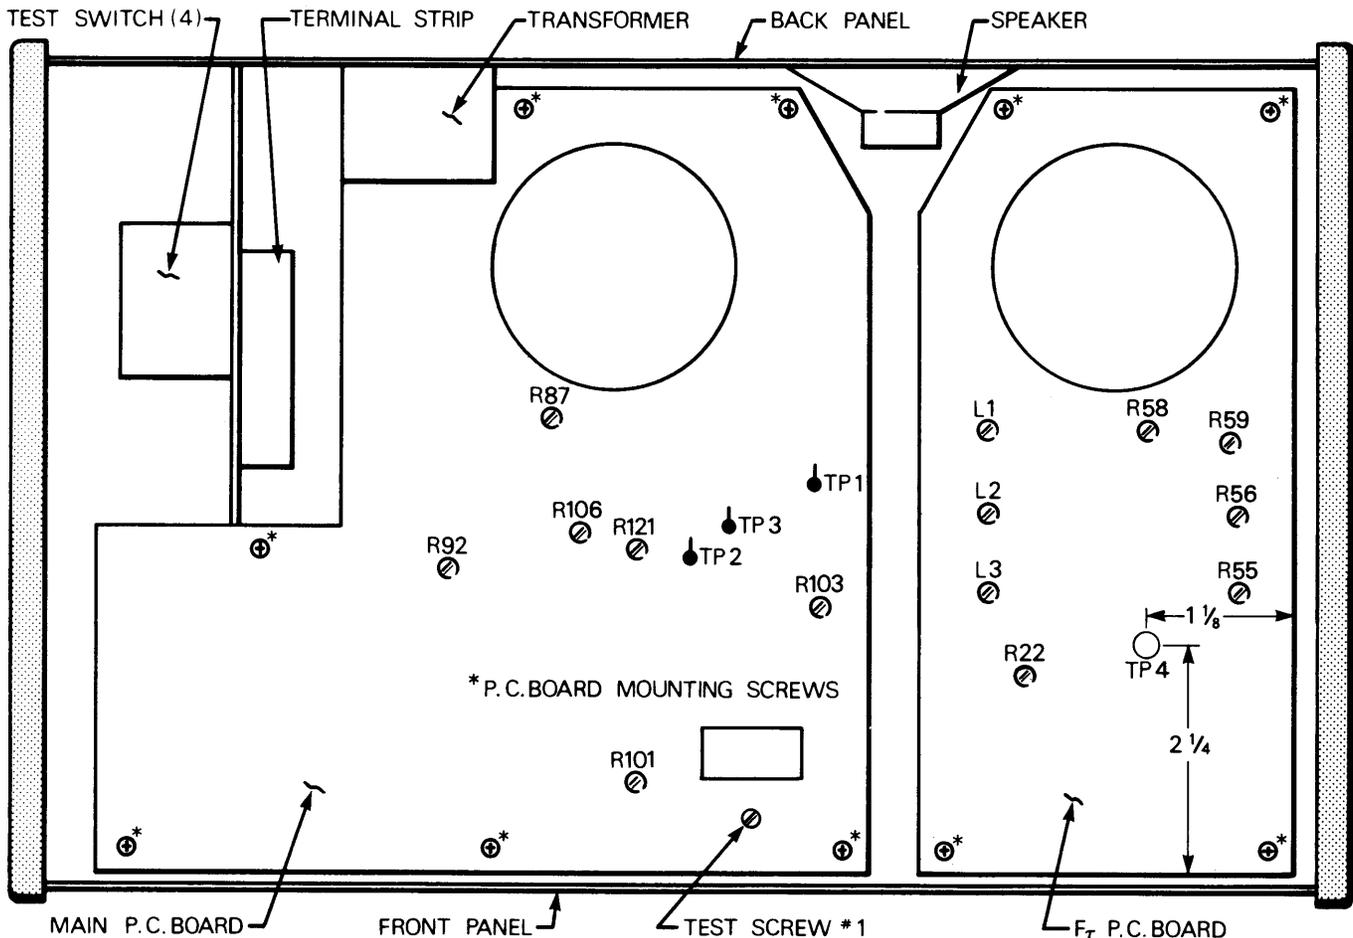
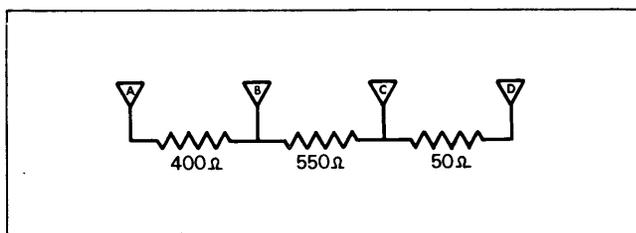
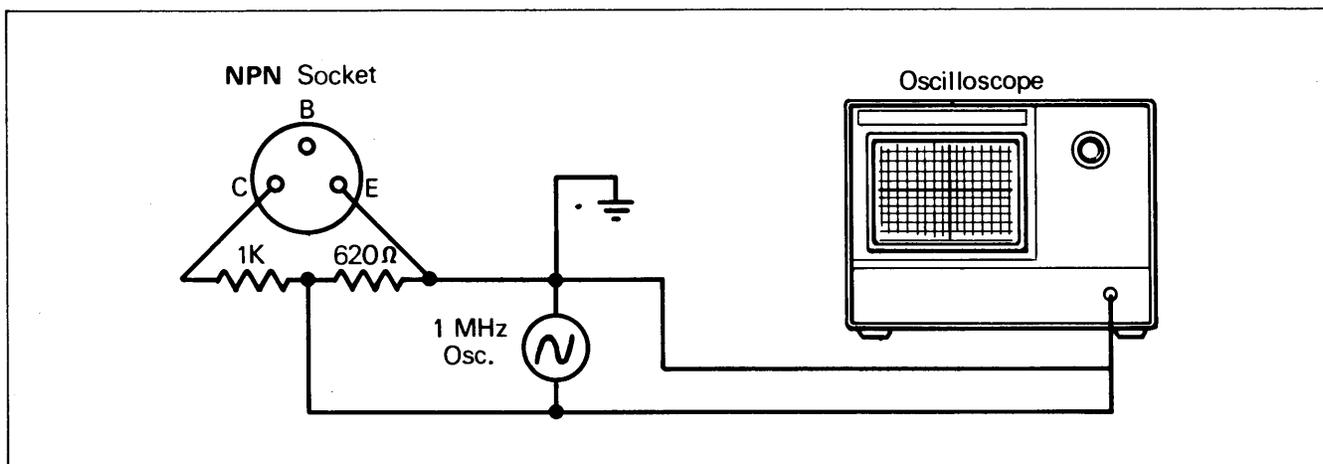

Fig. 8. Bottom view of Model 530, with bottom panel removed.
Fig. 9. Resistive network.
Fig. 14. Field calibration, *fr* circuit.
1. Turn the Model 530 power off. If LEAKAGE/GAIN meter (19) does not indicate zero, insert a suitable screwdriver in the hole just below the meter and adjust it to indicate zero on top scale.
2. Turn the Model 530 power on, if the LEAKAGE/GAIN meter (19) indicates zero on top scale, proceed to step #4. If the LEAKAGE/GAIN meter (19) does not indicate zero, turn the 530 power off, unplug the unit and remove the 530 bottom panel by removing the five screws (three on bottom panel and two on back panel).
3. Plug in the unit and turn power on. Adjust the zero control trimpot R-87 with suitable screwdriver so that meter is at zero. Refer to Fig. 8 for trimpot location.
4. With power on, set the HI PWR/LO PWR switch (10) to "LO PWR" position. Turn TRANSISTOR BETA/FET  $g_m$  switch (9) to "TRANSISTOR BETA" position. LEAKAGE/GAIN meter (19) should read zero on top scale; if not, remove bottom panel of the 530 and adjust zero  $\beta$  CAL
trimpot R-106 with suitable screwdriver (while holding the TRANSISTOR BETA/FET  $g_m$  switch (9) in "TRANSISTOR BETA" position) so that the LEAKAGE/GAIN meter (19) reads zero on top scale. Refer to Fig. 8 for trimpot location.
1. LEAKAGE/GAIN meter (19) should be zero calibrated as per section "A" above.
3. Set Test switch (4) to the top-most position. Set NPN/PNP switch (12) to "NPN/P-CH" position.
4. Connect a 5.1 K $\Omega$  resistor in series with a DC milliamp meter, to the blue and yellow test lead sockets (6) of the 530. (Blue socket should be connected to the positive lead of the external meter).
5. Press Model 530 PUSH-TO-TEST switch (13) and adjust front panel LEAKAGE VOLTS control (14) so that the external meter reads 0.9 milliamp DC.
- The Model 530 LEAKAGE/GAIN meter (19) should read  $900 \mu\text{A}$  on top scale. If meter does not read  $900 \mu\text{A}$ , unplug the 530 and remove the bottom panel.
- Plug the 530 into the power source and repeat step #5. With suitable screwdriver, adjust trimpot R-103 so that LEAKAGE/GAIN meter (19) reads  $900 \mu\text{A}$  on top scale. Refer to Fig. 8 for trimpot location.
- Build yourself a simple resistive network as shown in Fig. 9 (either by fixed resistors or by adjusting trimpots).
- Remove the small grounding TEST screw #1 and washer from back of the main P.C. board (at the corner next to the pushbutton switch). Refer to Fig. 8. Connect a lead between point "A" of the resistive network (Fig. 9) and main P.C. board test point 2 (TP-2); also connect a lead between point "D" (Fig. 9) and main P.C. board test point 3 (TP-3). Refer to Fig. 8.
- Set HI PWR/LO PWR switch (10), of the Model 530, to the "LO PWR" position. Set NPN/PNP switch (12) to the "NPN/N-CH" position. Lever Test switch (4) should be in the top-most position. Connect the blue test lead, which should be plugged into the blue test lead socket (6), to point "C" of resistive network (Fig. 9).
- Plug the Model 530 into the power source and turn power switch (11) on. Turn TRANSISTOR BETA/FET  $g_m$  switch (9) to "TRANSISTOR BETA" position. LEAKAGE/GAIN meter (19) should read "50" on LO  $\beta$  scale. If not, adjust main P.C. board trimpot R-121 with suitable screwdriver (while holding the TRANSISTOR BETA/FET  $g_m$  switch (9) in "TRANSISTOR BETA" position), so that the meter reads "50" on LO  $\beta$  scale. Refer to Fig. 8.
- Connect the blue test lead to point "B" of the resistive network (Fig. 9). Turn the TRANSISTOR BETA/FET  $g_m$  switch (9) to "TRANSISTOR BETA" position. The LEAKAGE/GAIN meter
(19) should read full scale. If not, adjust main P.C. board trimpot R-101 with suitable screwdriver so that LEAKAGE/GAIN meter reads full scale. Refer to Fig. 8. Unplug the Model 530 from power and disconnect all leads. Replace test screw #1 and washer to its original position. Refer to Fig. 8.
1. Turn Model 530 off. If  $f_r$  OUT-OF-CIRCUIT meter (18) does not indicate zero, insert a suitable screwdriver in the hole just below the meter and adjust it to indicate zero on the top scale.
3. Turn Model 530 power on. Without any transistors plugged into  $f_r$  sockets (15) or (16), check for  $f_r$  meter (18) reading of zero for each range selected on the RANGE, MHz Switch (17). If the  $f_r$  meter (18) does not read zero, adjust R-55 to obtain a zero reading (Fig. 8).
- (d) Adjust R-22 for a collector current of 10 milliamperes (See Fig. 8 for location of R-22).
- (b) Insert NPN transistor into front panel socket labeled NPN (16). All frequency measurements are taken at TP-4. See Fig. 8 for location of TP-4 and oscillator coils.
- (a) Connect two resistors in series and connect to Model 530 NPN Transistor Socket (16) as shown in Fig. 14. Turn power on. (See Fig. 8 for location of R-56, R-59 and R-58).
- (b) Set Range Switch (17) to 0-100.
- (d) Adjust R-56 for a reading of 60 on the top scale of the *fr* meter (18).
- (e) Set Range Switch (17) to 0-500.
- (g) Adjust R-59 for a reading of 60 on the top scale of the *fr* meter (18).
- (h) Set Range Switch (17) to 0-1500.
- DRIVE switch (5).
- LO PWR/HI PWR test selector switch (10).
- NPN/PNP test selector switch (12).